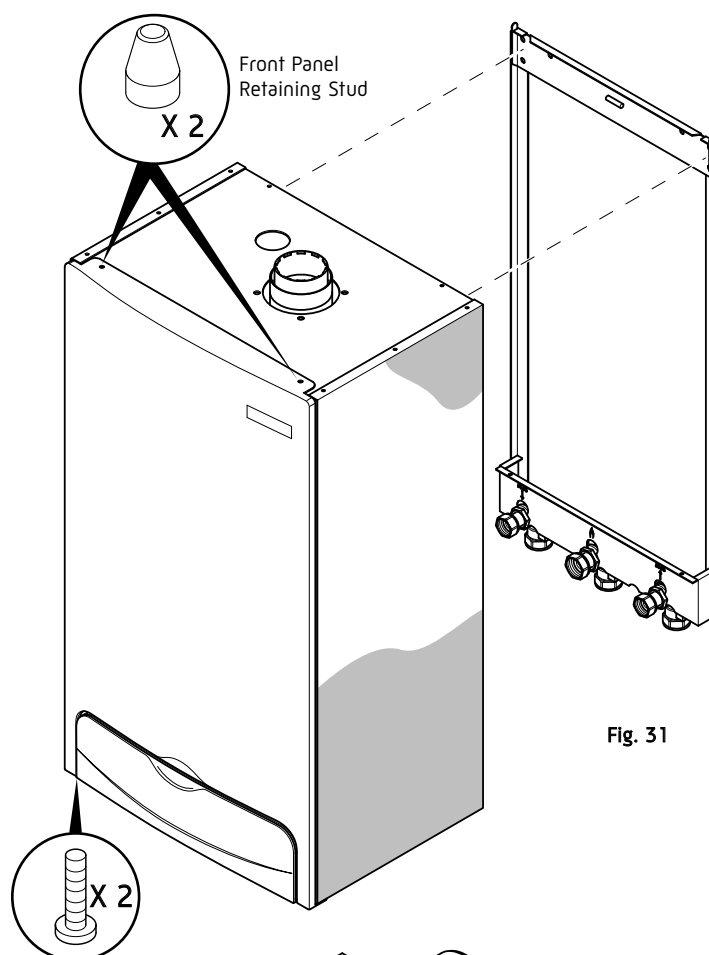

Fig. 31
3. Lift the boiler as indicated by the shaded areas. The boiler should be lifted by TWO PEOPLE. Engage the slots at the top rear of the boiler on the wall plate (Fig. 31) (see **Safe Manual Handling** page 6).